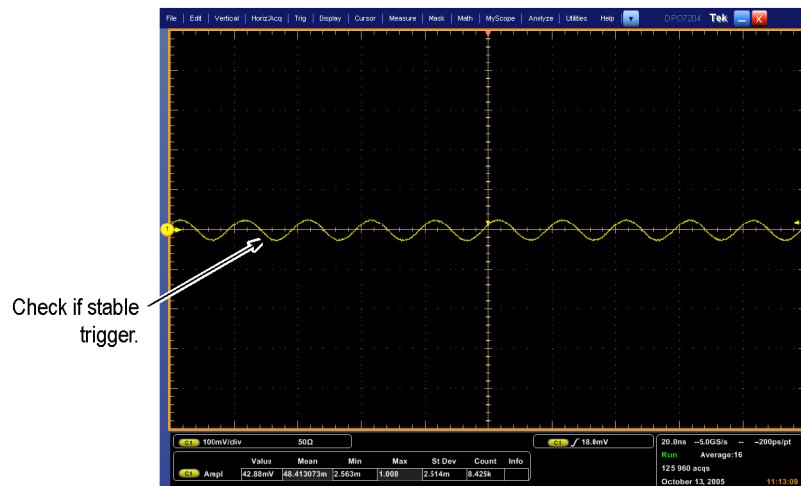

Figure 34: Measurement of trigger sensitivity - 50 MHz results shown
- CHECK that a stable trigger is obtained for the test waveform for both the positive and negative slopes of the waveform. Use the **Trigger Level** knob to stabilize the A trigger. Touch **Level** and use the keypad or the multipurpose knob/Fine button to stabilize the B trigger. Touch one of the Slope buttons to switch between trigger slopes. (See Figure 34: Measurement of trigger sensitivity - 50 MHz results shown on page 260.)